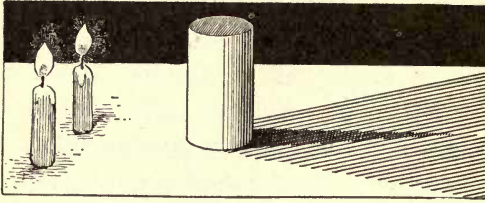

FIG. 194.
**Experiment 62. — Shadows.** — Place an opaque cylinder, two or three inches in diameter, in a dark room. Place two lighted candles about six inches away from the cylinder, making the distance between the candles equal to the diameter of the cylinder (Figure 194).
Place two lighted candles about six inches away from the cylinder, making the distance between the candles equal to the diameter of the cylinder (Figure 194). Is there any space behind the cylinder